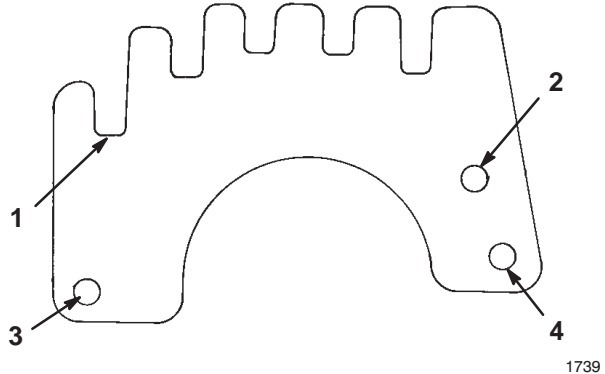

Figure 4
- Use the rear wear plate as a template to locate and mark the two mounting holes on the lawn mower housing (Fig. 4).